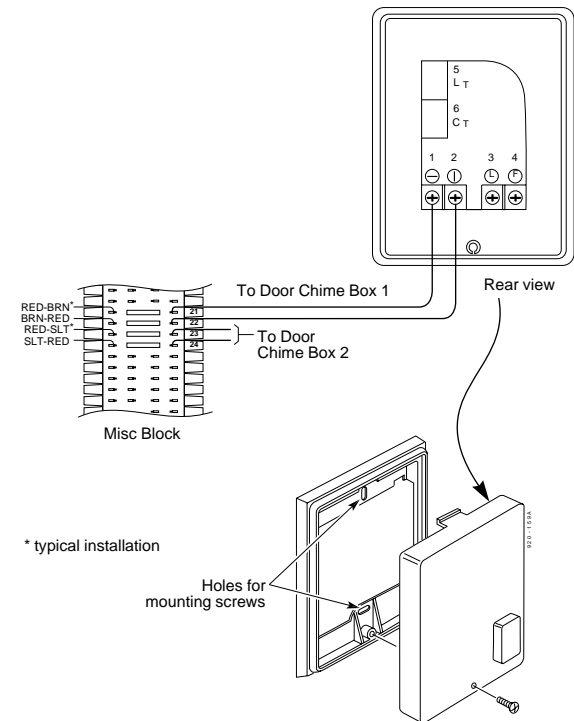

Figure 4-4 INSTALLING A DOOR CHIME BOX
### Installing a Door Chime Box (Figure 4-4)
3. Terminate the other end of the station cable leads to the Door Chime Box according to Figure 4-4.